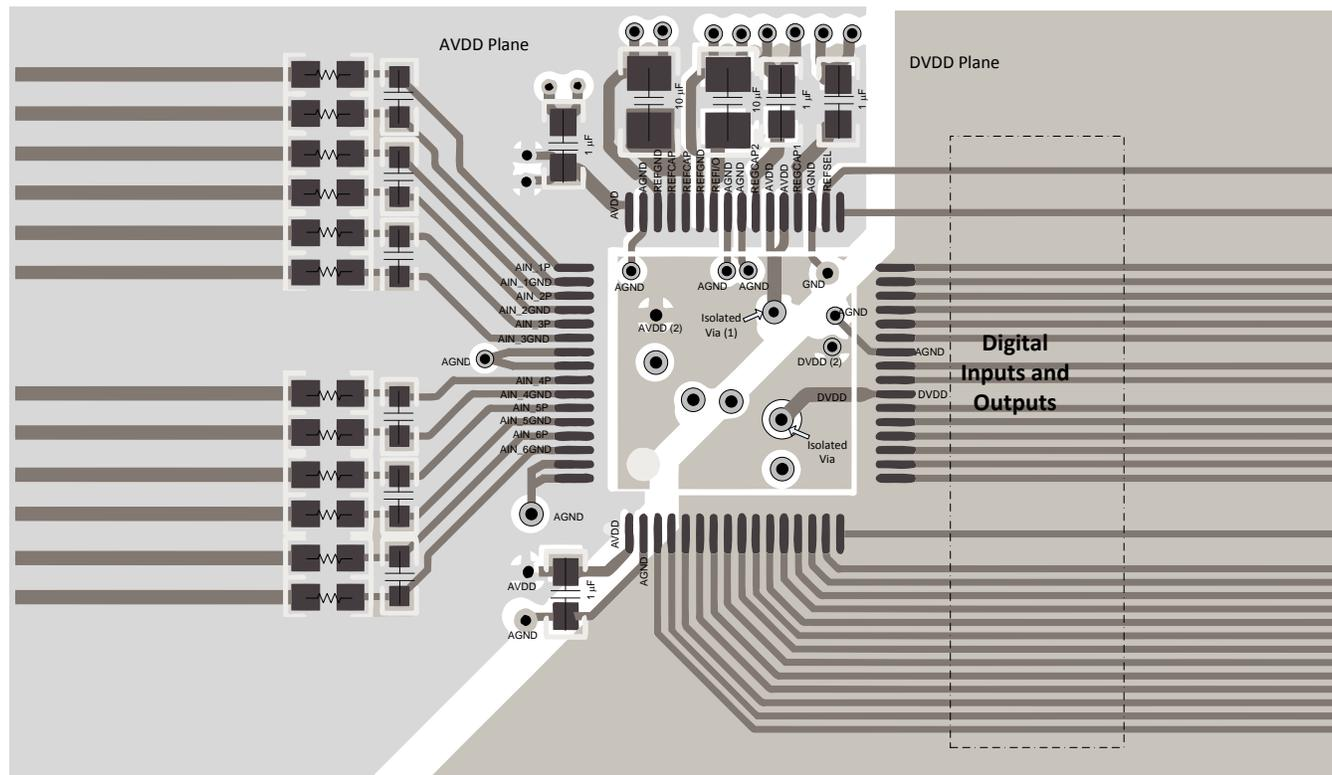
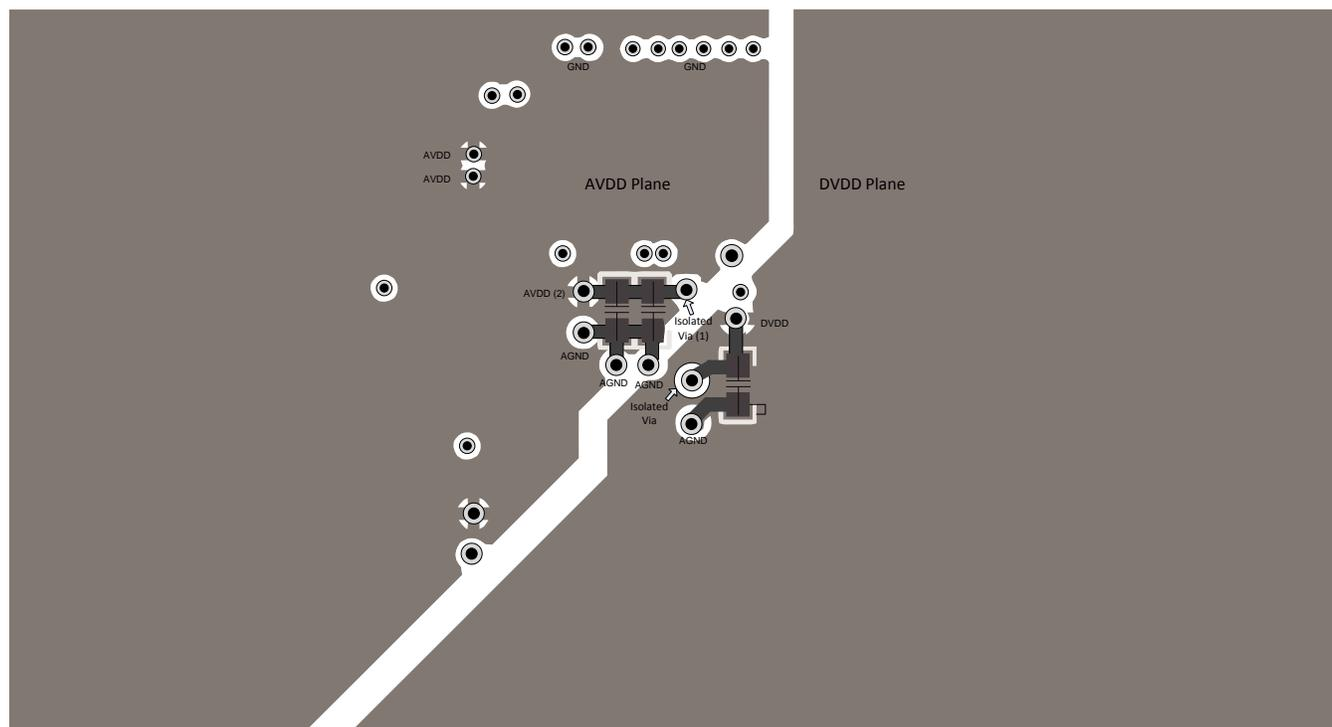

Figure 89. Top Layer Layout
Figure 90. Bottom Layer Layout
Figure 89 and Figure 90 illustrate a PCB layout example for the ADS8586S.
- Power sources to the ADS8586S must be clean and well-bypassed. As a result of dynamic currents during conversion, each AVDD must have a decoupling capacitor to keep the supply voltage stable. Use wide traces or a dedicated analog supply plane to minimize trace inductance and reduce glitches. Using a 1- $\mu$ F, X7R-grade, 0603-size ceramic capacitor is recommended in close proximity to each analog (AVDD) supply pins. Bypass capacitors for AVDD pins 1 and 48 are located on the top layer; see Figure 89. AVDD supply pins 37 and 38 are connected to bypass capacitors in the bottom layer using an isolated via (1); see Figure 90. A separate via (2) is used to connect the bypass capacitor to the AVDD plane.
- For decoupling the digital (DVDD) supply pin, a 1- $\mu$ F, X7R-grade, 0603-size ceramic capacitor is recommended. The DVDD bypass capacitor is located in the bottom layer; see Figure 90.
Figure 89 and Figure 90 illustrate a recommended layout for the ADS8586S along with proper decoupling and reference capacitor placement and connections.